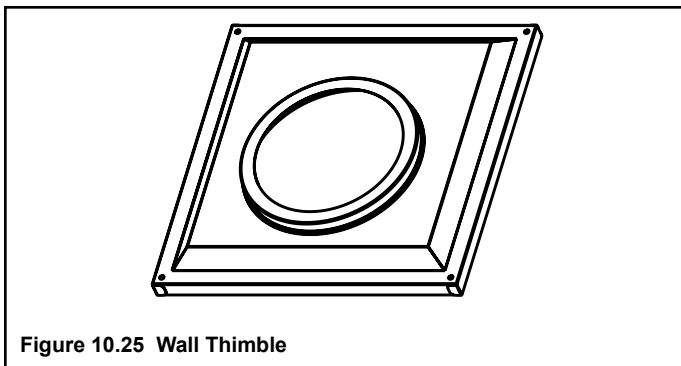

Figure 10.25 Wall Thimble
- Once the pipe section and the termination cap have been connected, slide the wall thimble up to the interior wall surface and attach with screws provided. See Figure 10.25.